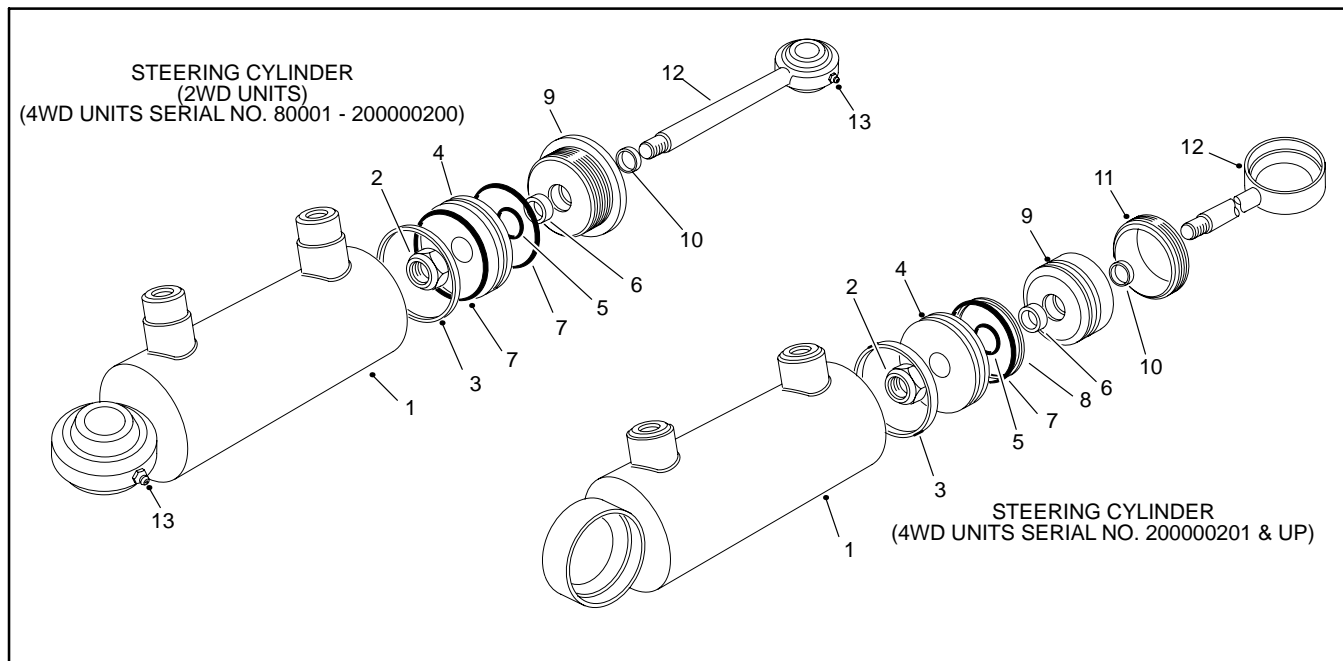

Figure 20
4. Use a spanner wrench to unscrew (counterclockwise) head from barrel (Fig. 20).